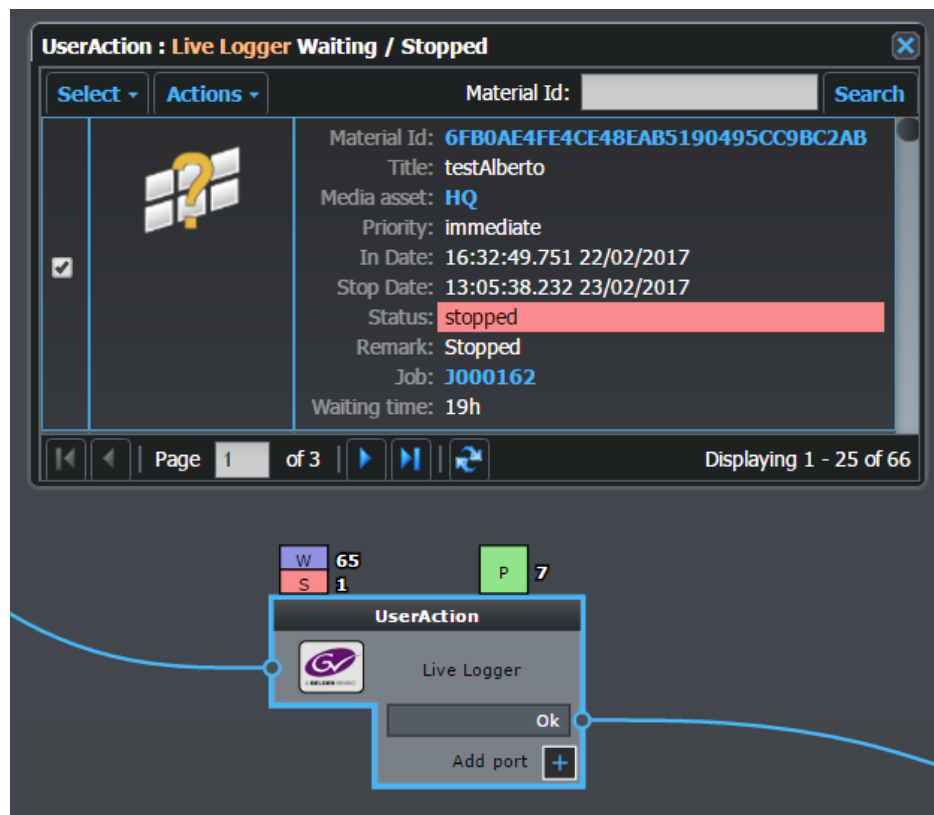

Fig. 3-78: Stopped Status
- A **red** square represents a **stopped** status to indicate that the task has been stopped by user and is waiting for the user to resume the task (see the sections Using the Dashboard for Task Monitoring, on page 176 , or Using the Services Page, on page 182 for more information.) This status indicator also contains the letter **S** as shown in Figure 3-78: